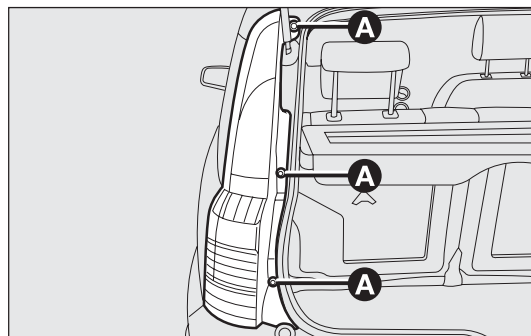

fig. 152
- loosen the three screws A-fig. 152 from their seats, pull gently outwards until releasing the whole headlight from the three clips (press-fit), then release the connector;